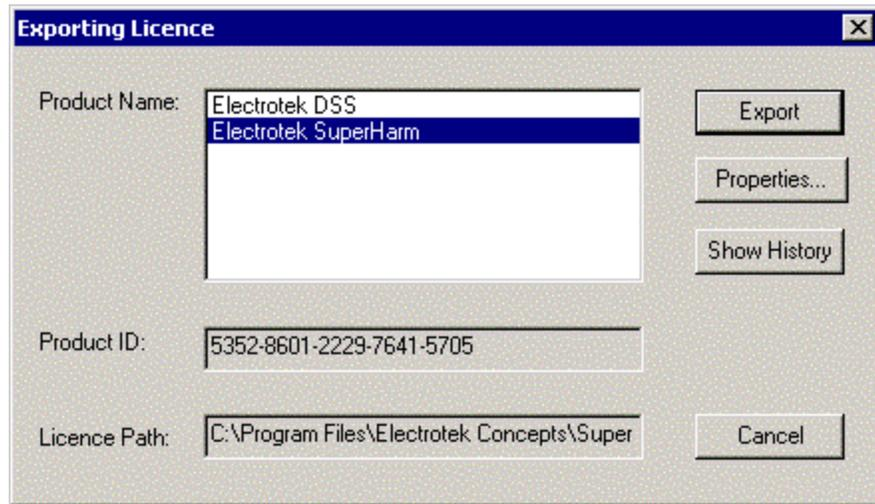

Figure i- 15: Transferring a License Key
- Choose **Licence, Export** from the menu to obtain the dialog shown in Figure i- 15. Your Product Name combo box may list only SuperHarm, or it may list several products from Electrotek or other vendors that use the Sheriff licensing library.